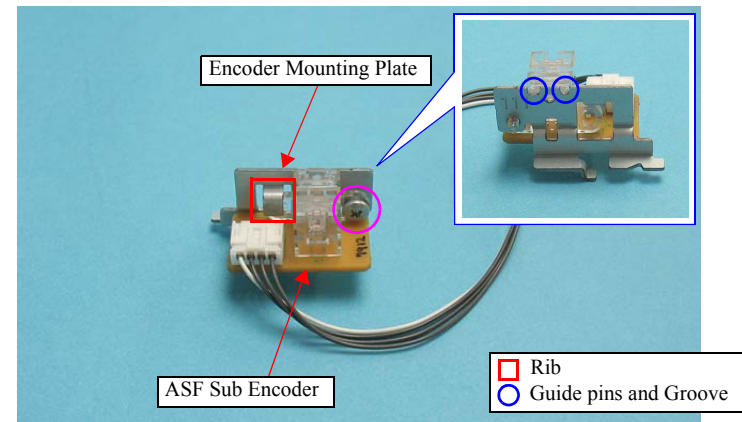

Figure 4-170. Removing the ASF Sub Encoder (2)
- When installing the ASF Sub Encoder to the Encoder Mounting Plate, insert the two guide pins of the ASF Sub Encoder into the grooves of the mounting plate as shown in Figure.4-170.